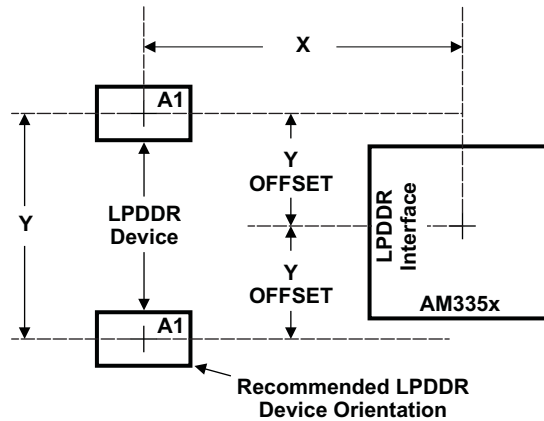

图 7-34. AM335x Device and LPDDR Device Placement
图 7-34 shows the required placement for the LPDDR devices. The dimensions for this figure are defined in 表 7-37. The placement does not restrict the side of the PCB on which the devices are mounted. The ultimate purpose of the placement is to limit the maximum trace lengths and allow for proper routing space. For single-memory LPDDR systems, the second LPDDR device is omitted from the placement.
- (1) LPDDR keepout region to encompass entire LPDDR routing area.
- (2) For dimension definitions, see 图 7-34.
- (3) Measurements from center of the AM335x device to center of LPDDR device.
- (4) For single-memory systems, TI recommends that Y offset be as small as possible.
- (5) w is defined as the signal trace width.
- (6) Non-LPDDR signals allowed within LPDDR keepout region provided they are separated from LPDDR routing layers by a ground plane.